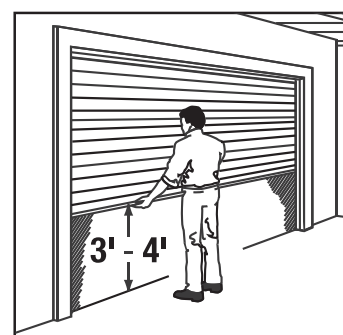

Fig.1
- Raise door manually about 3' to 4' from floor and let go. Door should slowly drift closed. Fig. 1.